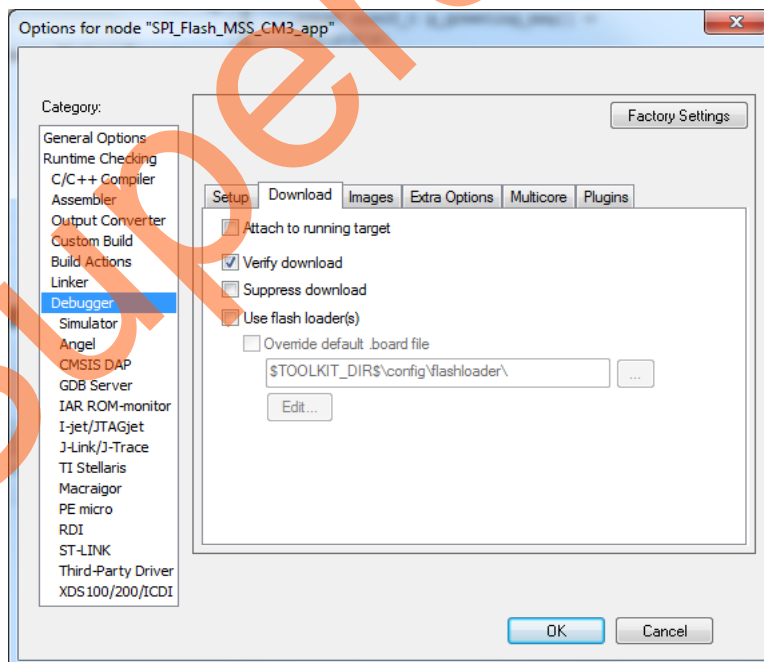

Figure 30 • IAR Debugger Options - Download
15. Click **Download** tab and select the **Verify download** check box as shown in Figure 30.